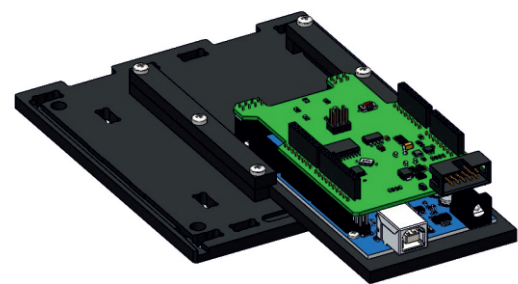

Fig. 37: Mounting boards on the base plate
4) Slide the bracket together with circuit boards onto the base plate using guide rails (Fig. 37):